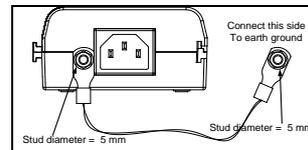

Figure 2: Stud Connection to Ground
- ◆ The supplemental protective Earthing terminal provided on this product shall be permanently connected to earth (See figure 2). If the supplemental earth ground is replaced, apply 5Lb/In torque.